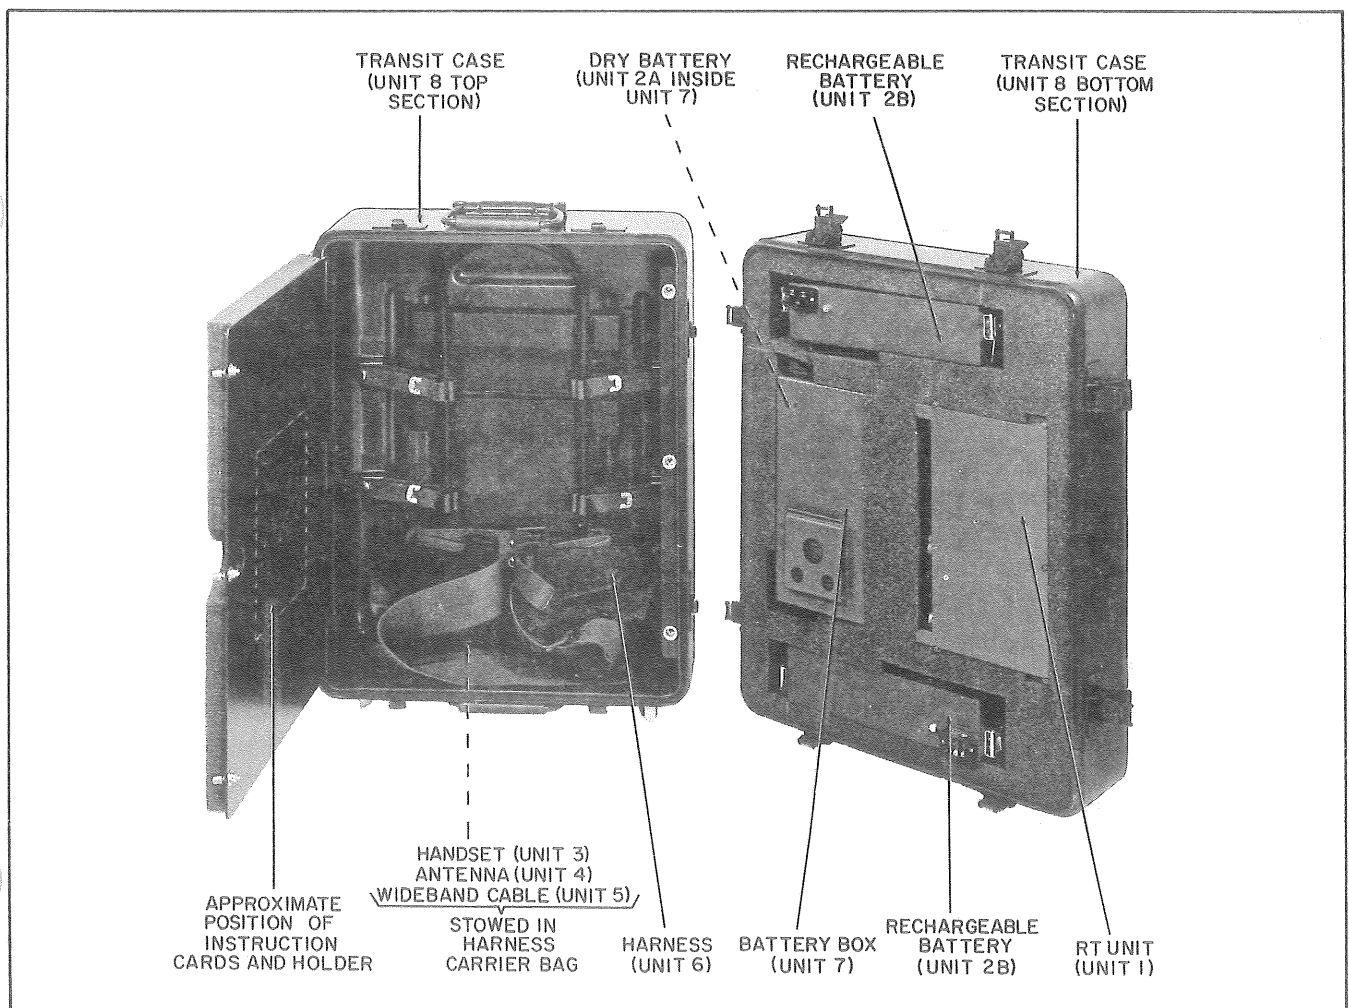

Figure 2-1. Radio Set Shipping Configuration
2-2. Referring to Table 1-3 and Figure 2-1, the transit case, Unit 8, contains Units 1 through 7 of the radio set. To remove these units from a closed transit case, proceed as follows:
b. Referring to Figure 2-1, place Units 1, 2B, and 7 (containing 2A) into the top section of the transit case, Unit 8. Ensure that the units fit correctly and snugly into the cutouts of the padding.